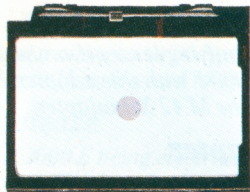

Fig. 47
- Universal focusing screen with central diagonal split image rangefinder within a microprism circle and surrounded by a matt screen brightened by a fresnel lens (fig. 47). This screen is a general purpose screen but with the advantage of the grid lines and is especially useful where composition is an important element, e.g. architectural photography with horizontal and vertical lines. It is also suitable for lenses with low light transmission or when using macro accessories.